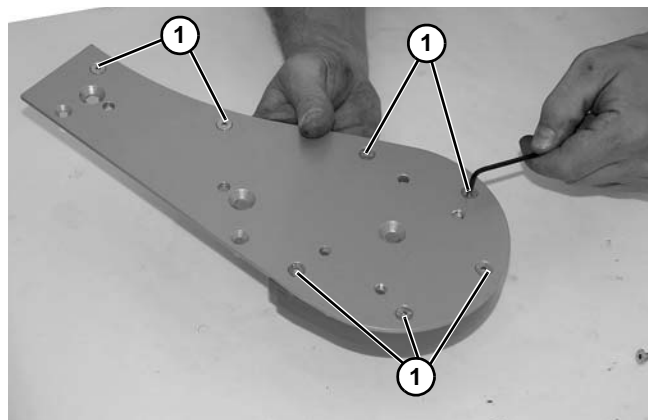

Figure 130
1. Remove seven (7) socket head screws (Figure 130, item 1) from idler head plate assembly.